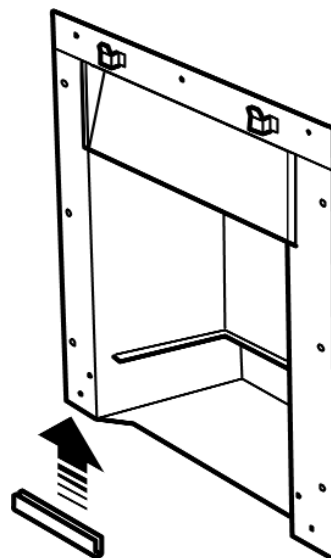

Figure 13. 'U' seals
2. Fit the two “U” section seals to the bottom edges of the hotbox side flanges (See figure 13).